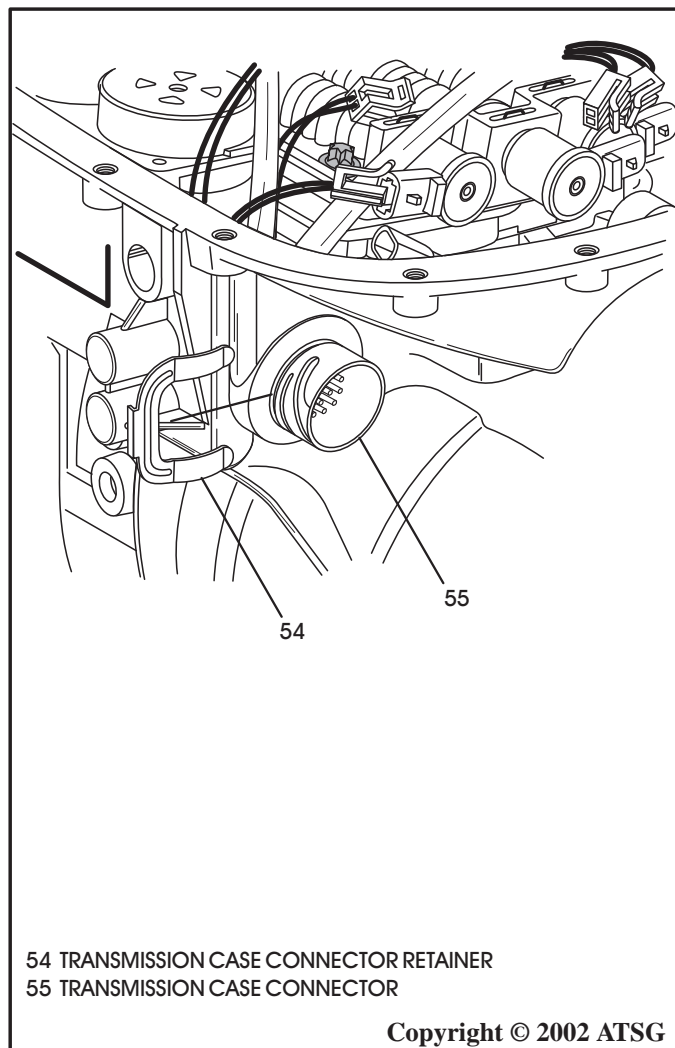

Figure 37
25. Remove transmission case connector retainer with a screwdriver and push case connector back into the transmission case to make ready for wiring harness removal (See Figure 37).